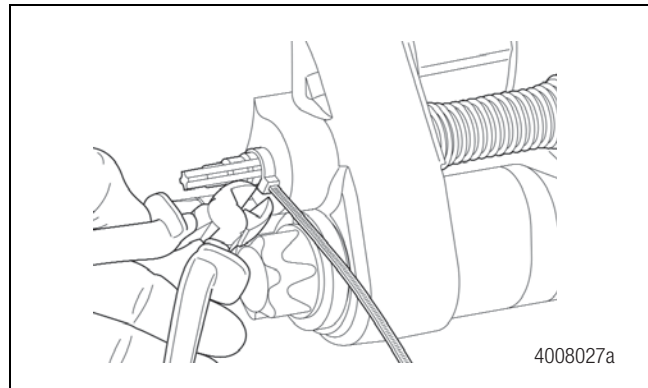

Figure 6.62
3. Remove the clip/retainer from the visual wear indicator where applicable. Figure 6.62.